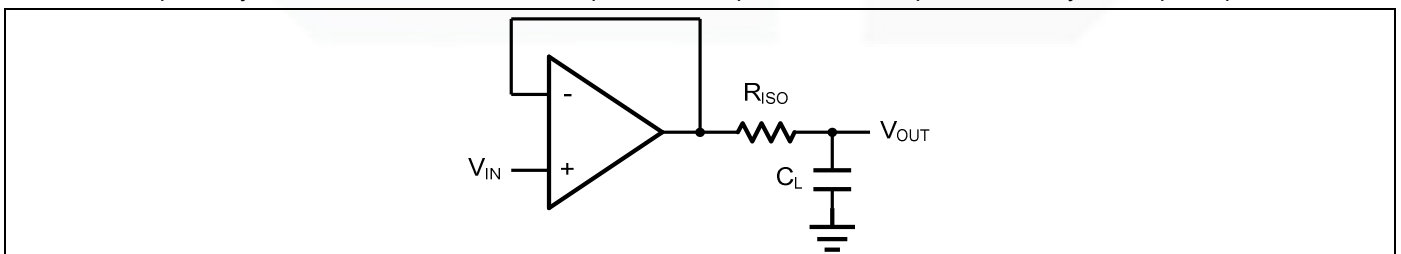
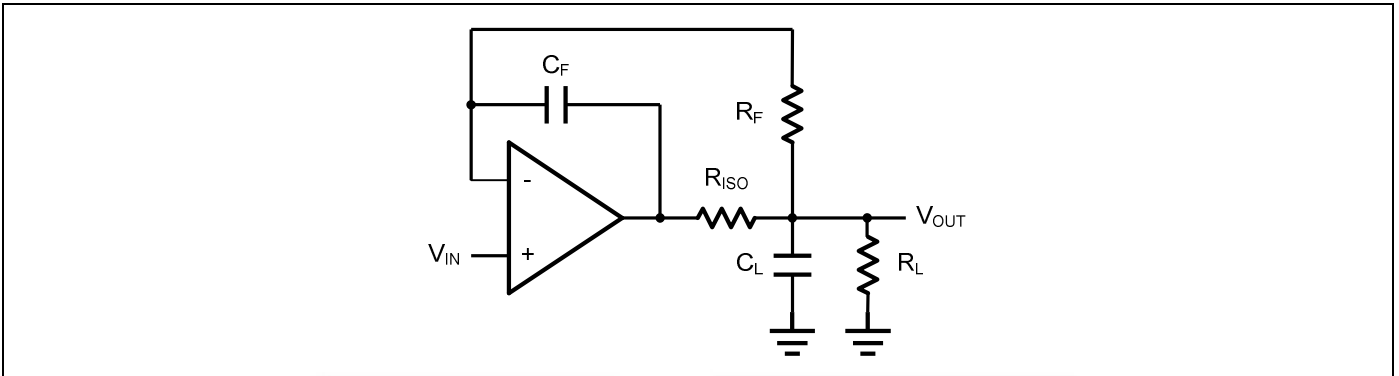

Figure 2. Indirectly Driving a Capacitive Load Using Isolation Resistor
Figure 3. Indirectly Driving a Capacitive Load with DC Accuracy
The GS8722C is optimized for bandwidth and speed, not for driving capacitive loads. Output capacitance will create a pole in the amplifier's feedback path, leading to excessive peaking and potential oscillation. If dealing with load capacitance is a requirement of the application, the two strategies to consider are (1) using a small resistor in series with the amplifier's output and the load capacitance and (2) reducing the bandwidth of the amplifier's feedback loop by increasing the overall noise gain. Figure 2. shows a unity gain follower using the series resistor strategy. The resistor isolates the output from the capacitance and, more importantly, creates a zero in the feedback path that compensates for the pole created by the output capacitance.
The circuit in Figure 3 is an improvement to the one in Figure 2. R_F provides the DC accuracy by feed-forward the V_{IN} to R_L . C_F and R_{ISO} serve to counteract the loss of phase margin by feeding the high frequency component of the output signal back to the